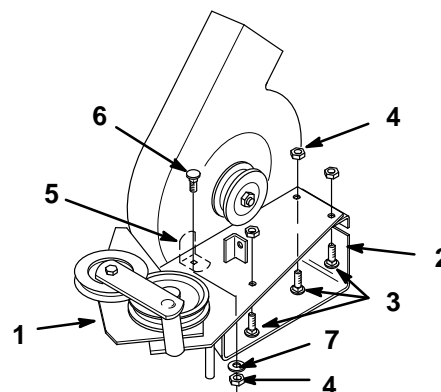

Figure 9
1. Assemble blower mounting plate to blower with (3) 5/16 x 3/4" carriage bolts and (3) 5/16" flange nuts (Fig. 9).
2. In the front inside hole of the blower insert a 5/16 x 1" carriage bolt, item 6 (Fig. 9).
3. Inside the blower housing, slide the L-bracket over the bolt. Hold the L-bracket tight against the blower housing wall and secure with 5/16" washer and 5/16" flange nut (Fig. 9).